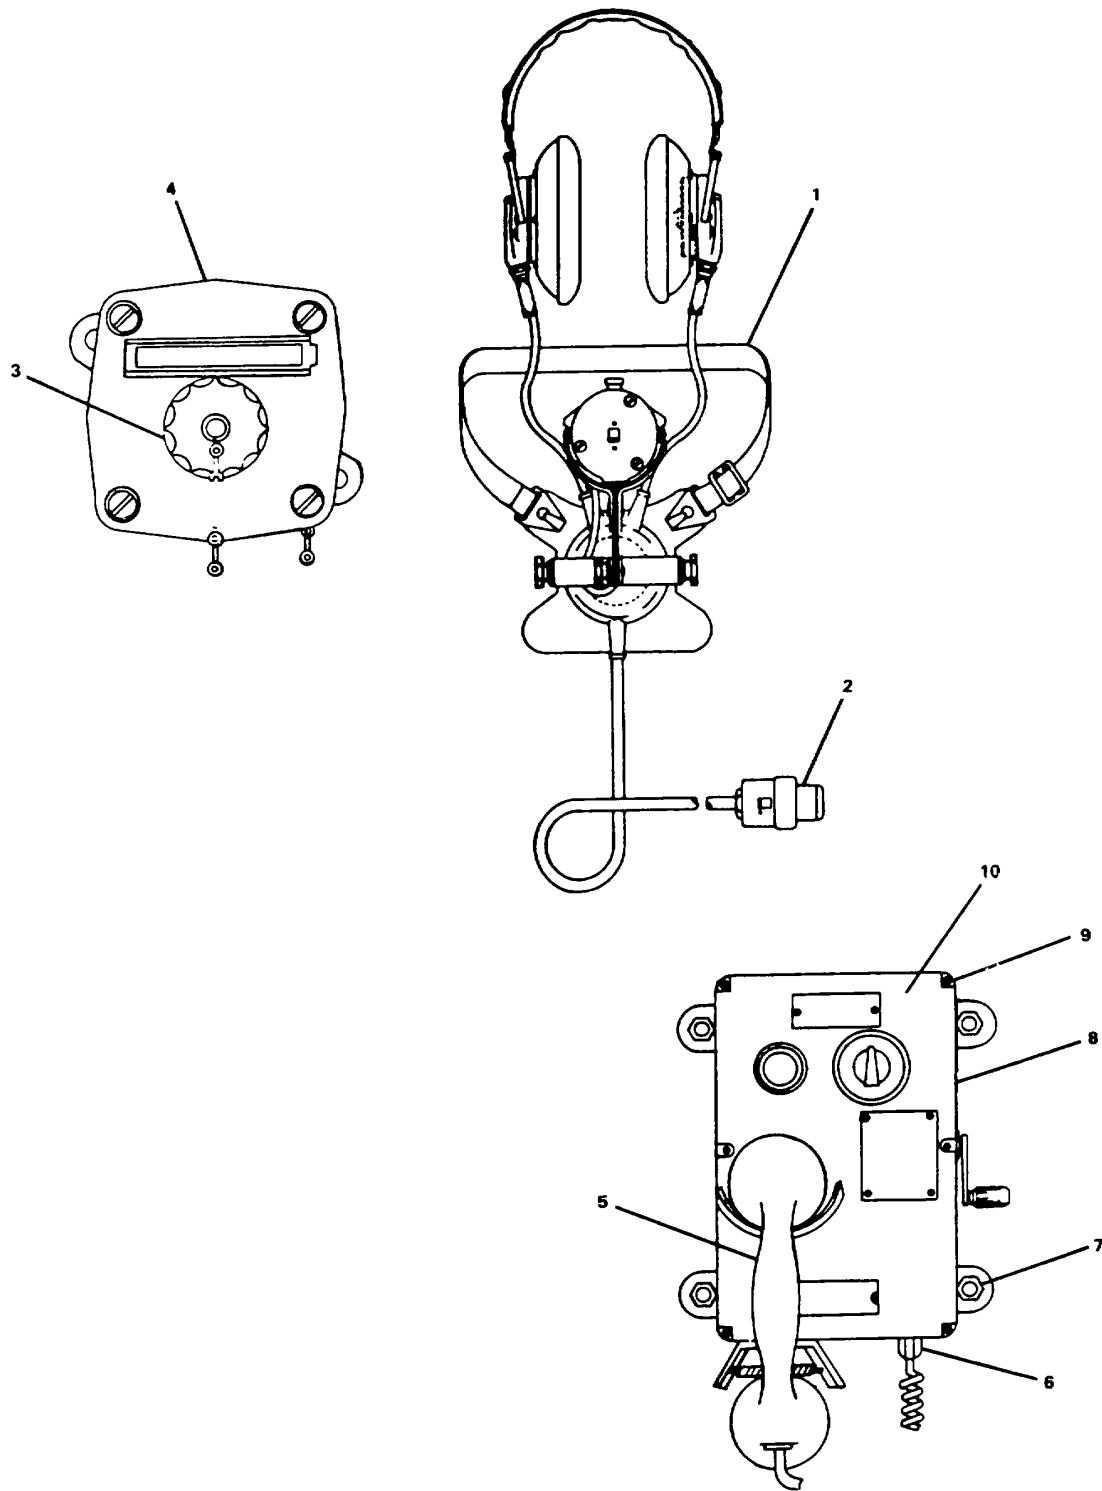

Figure 2-114. Remove Sound Powered Telephone (Typical).
- a. Remove headset-chest set (1, Figure 2-114) by disconnecting plug (2) from receptacle (3) on jackbox (4).
- b. Remove handset (5) by disconnecting telephone cord nut (6).
1. Remove screws (9) and front panel (10). Tag and disconnect wires.
2. Remove hex head screws (7) securing telephone (8) to bulkhead.
3. Remove telephone (8).